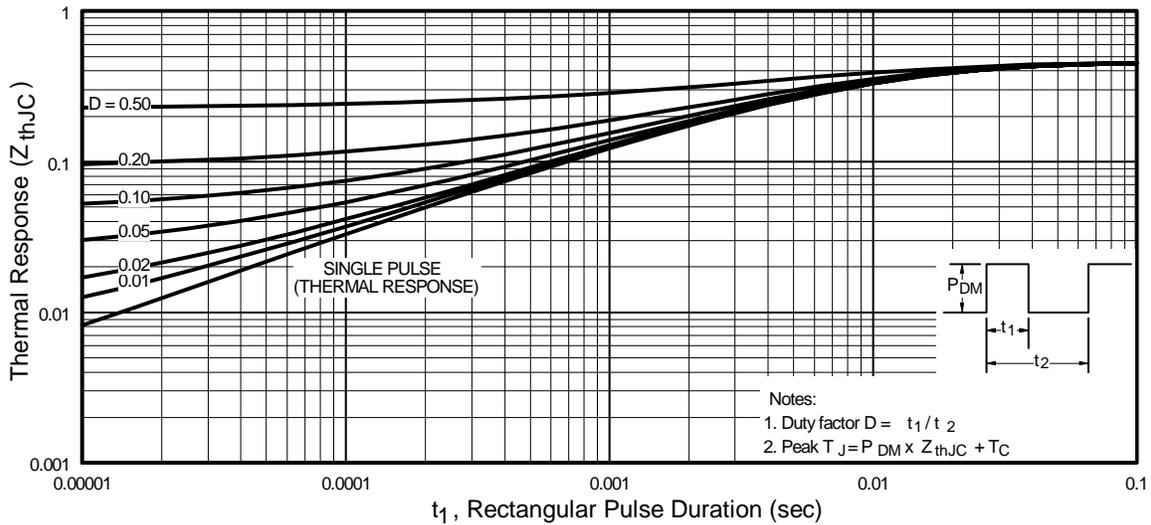

Fig 11. Maximum Effective Transient Thermal Impedance, Junction-to-Case
$Z_{thJC}(D, t_{av})$ = Transient thermal resistance, see figure 11)
- ① Repetitive rating; pulse width limited by max. junction temperature. (See fig. 11).
- ② Starting $T_J = 25^\circ\text{C}$, $L = 0.11\text{mH}$